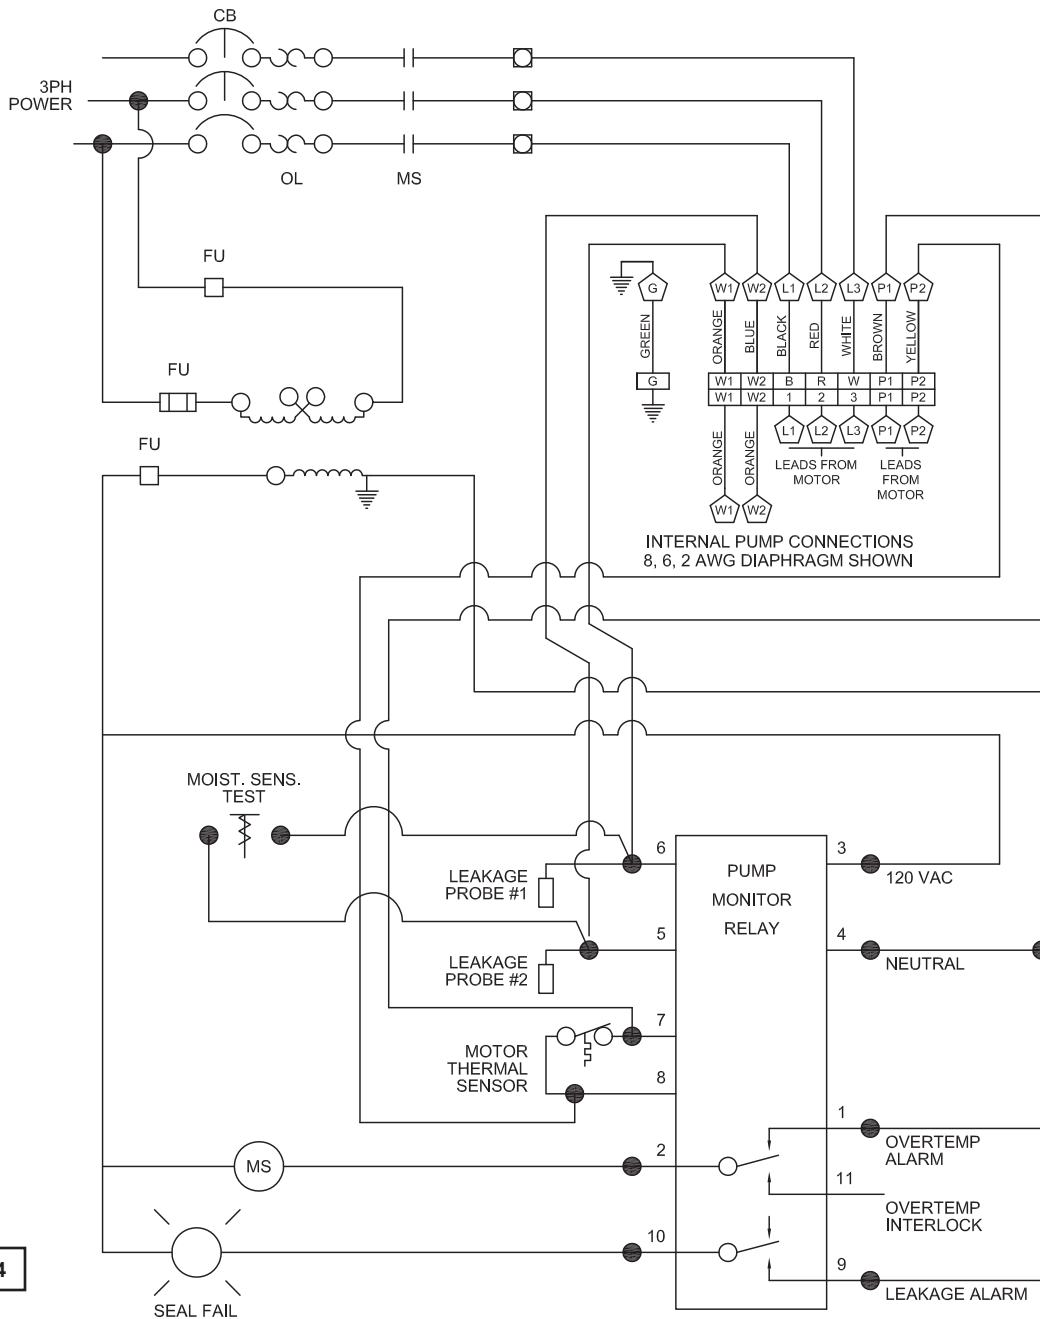

FIGURE 4
A manual momentary start switch is required to prevent the automatic restarting of the motor when the thermostat resets, refer to Figure 4.
- b. A temperature sensing circuit (See Fig. 4)
- c. A moisture detection circuit with continuity test circuit (See Fig. 4)